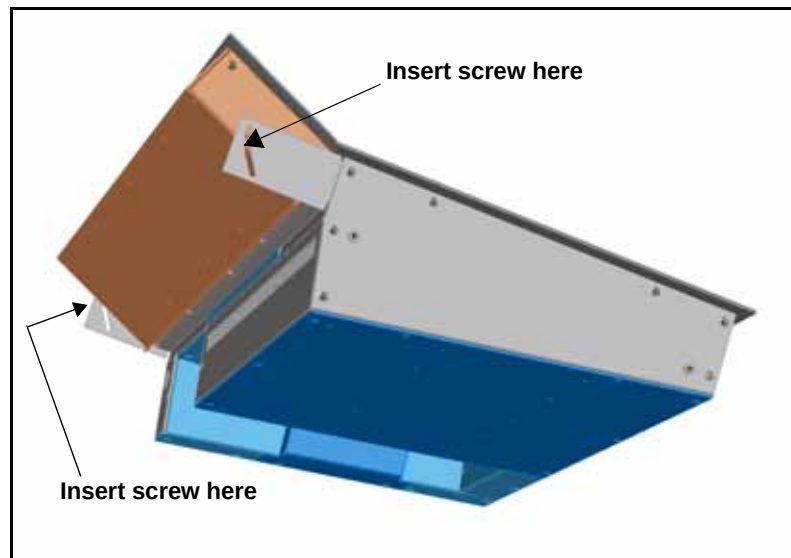

Figure 2-7. Audio Control Panel Attachment
6. Attach the audio control panel to the mounting bracket by inserting the provided screws in the curved slots that overlap each side of the audio control panel (see Figure 2-7).